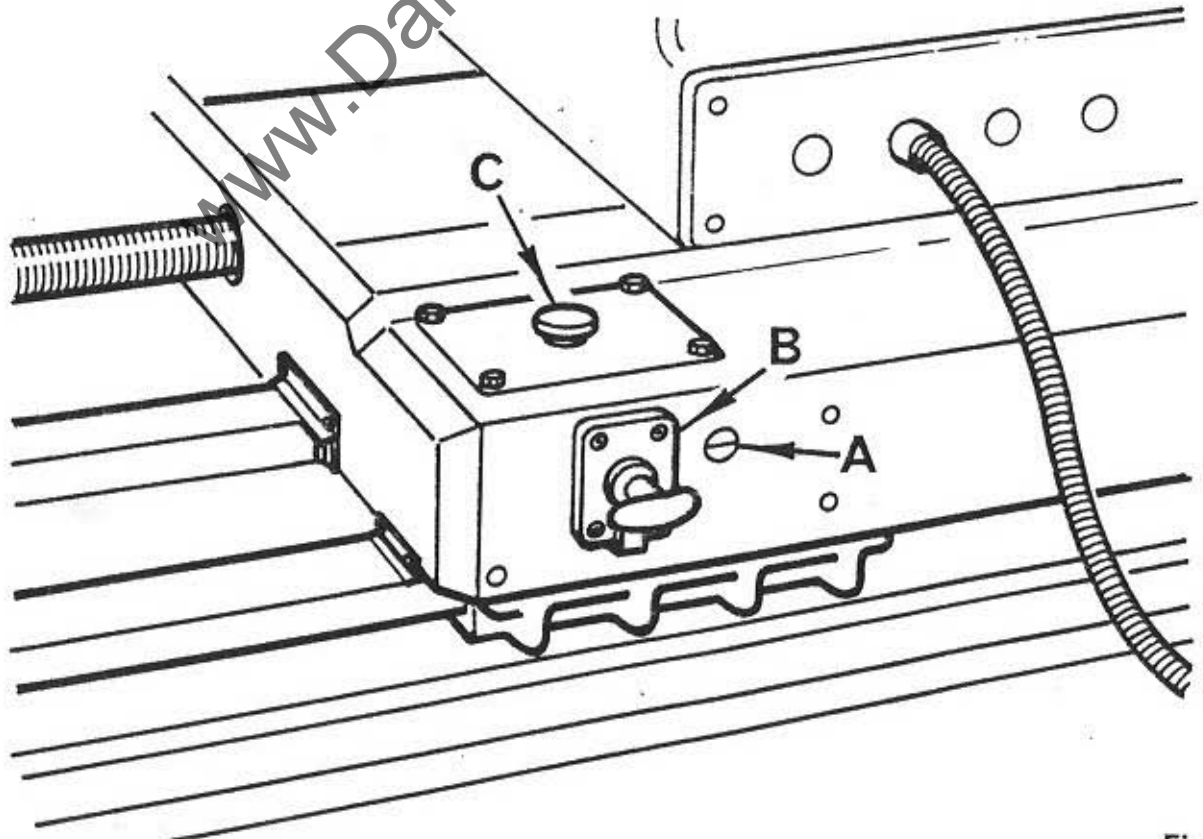

Fig 10
6. Check that oil is up to oil level mark "A" in FIG 10 on lubrication unit "B" fitted to adjustable saddle. To top up if necessary using correct grade of oil, remove oil filler plug "C" top up to the oil level mark "A" then replace filler plug "C". See Approved Lubricants Page 26.